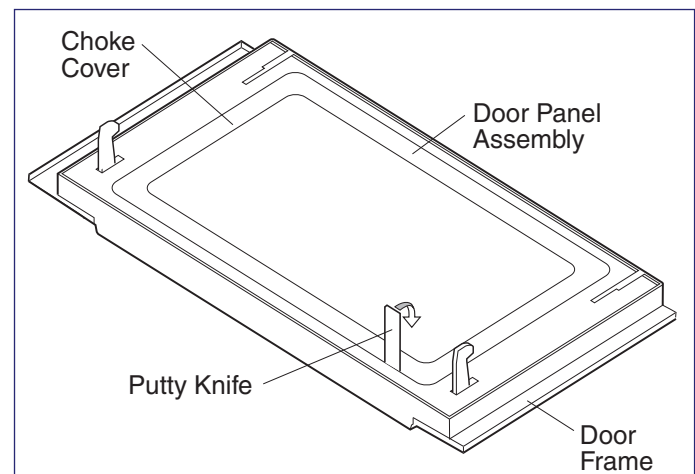

Figure 4-7. Door Disassembly
7. Insert a putty knife (thickness of about 0.5mm) into the gap A between the choke cover and door stopper and between the choke cover and the door frame as shown in Figure 4-7 to free engaging parts.
8. Pry the choke cover by inserting a putty knife in order shown in Figure 4-7.